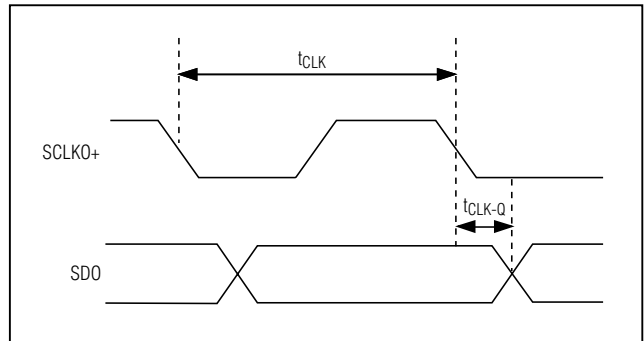

Figure 2. Definition of Clock-to-Q Delay
**Note 5:** Relative to the falling edge of SCLKO+. Refer to Figure 2.